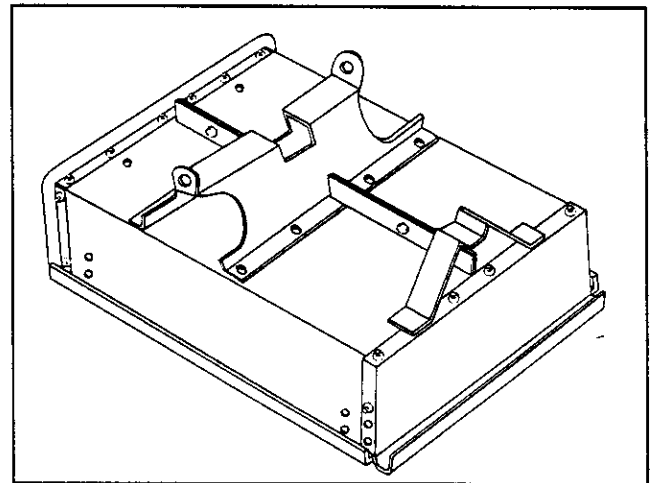

FIGURE 7
- To prevent accidental tipping during the following assembly procedures, lower the cart to rest upside down on the top flanges, so that the wheel support is facing up as shown in figure 7.